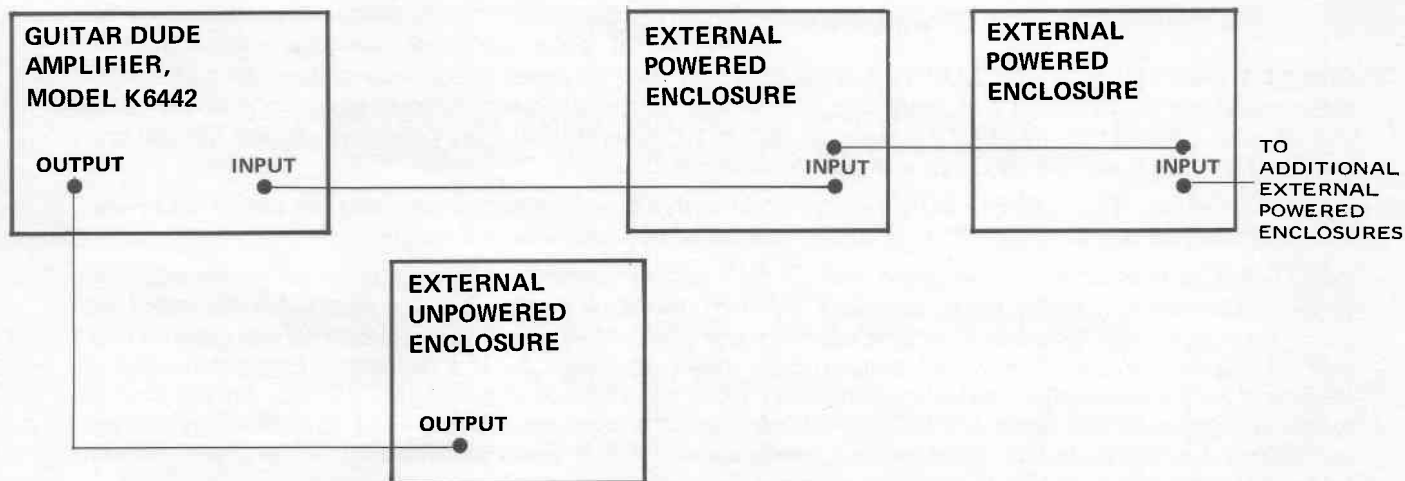

Figure 3. Typical Connections of Guitar Dude Amplifier, Model K6442, with External Enclosures
- L. INPUT JACK (GREEN) – The green INPUT jack allows more than one external powered enclosure to be connected in parallel (with standard 1/4-inch phone plugs and shielded cords) for increased output. To make these connections, first connect the amplifier INPUT jack (green) to the green INPUT jack of the first external powered enclosure as shown in figure 3. If a second external powered enclosure is to be connected, make a connection from the remaining green INPUT jack on the first external enclosure to the green INPUT jack of the second enclosure. Connections to additional powered enclosures can be made by repeating this sequence. A 1-volt input signal will develop a full 100-watt rms output from the K6442 amplifier.
- M. OUTPUT JACK (RED) – The red OUTPUT jack may be used to drive the unamplified speakers and Ovation Freq-Lites (figure 3). The speakers in this enclosure are internally connected to the power amplifier and do not require any external connection. The red OUTPUT jack will accept a standard 1/4-inch phone plug with heavy, unshielded cord.